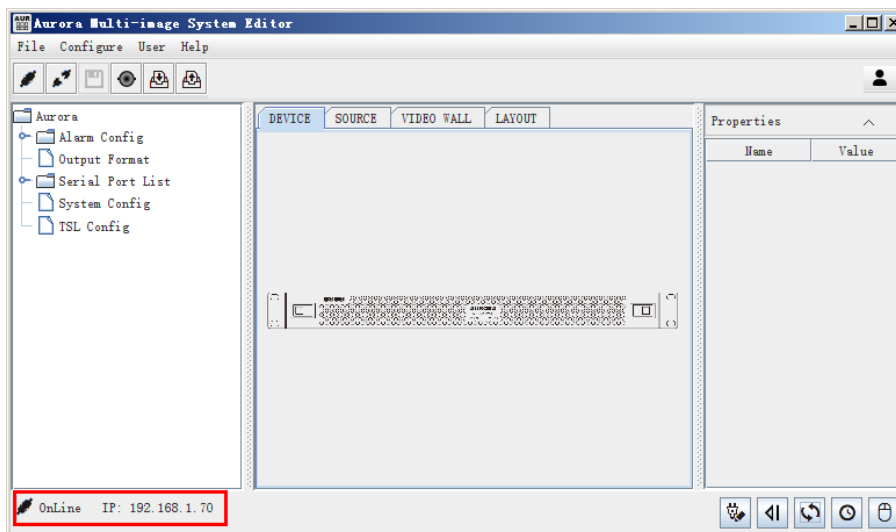

Figure 2.2-9 Set up Connection
- **ONLINE:** When detecting and setting up the connection with the target device during startup process, it will show the Online keyword and its IP address in Status Bar, as shown in **Figure 2.2-9**: